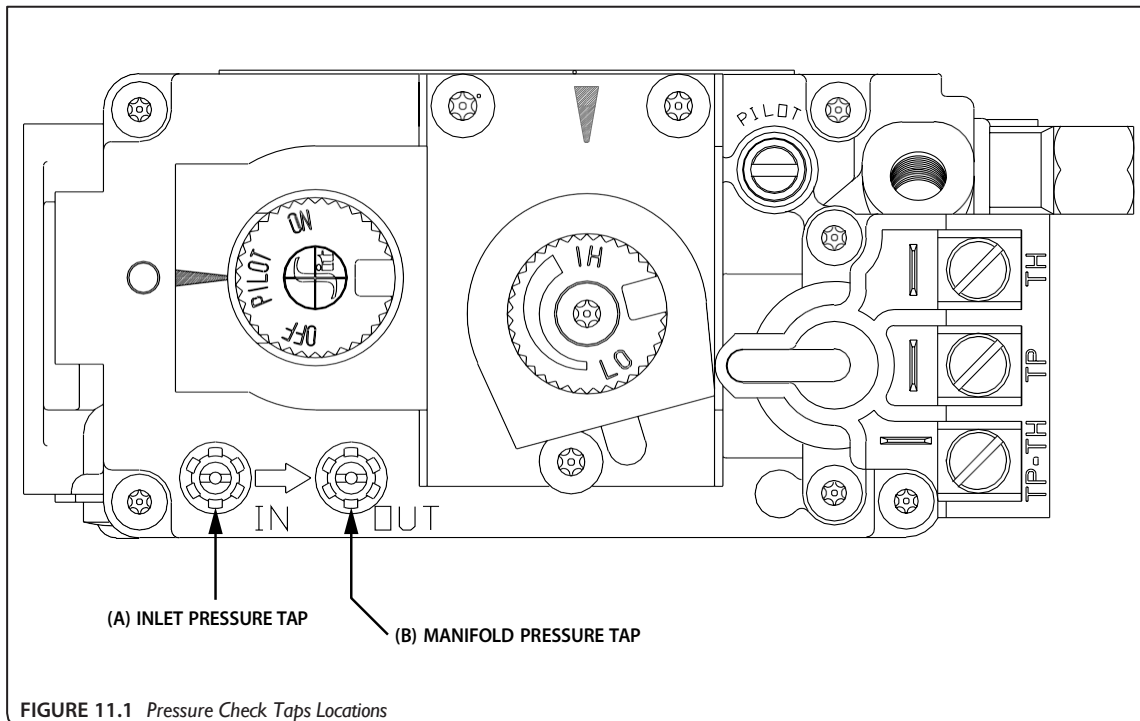

FIGURE 11.1 Pressure Check Taps Locations
1. Loosen the inlet (IN) pressure tap by turning screw counterclockwise. See (A) in FIGURE 11.1.
8. Disconnect hose and tighten the inlet (IN) pressure tap by
2. Loosen manifold (OUT) pressure tap by turning screw counterclockwise. See (B) in FIGURE 11.1.
7. Attach the manometer to the manifold pressure tap (B) to verify it is completely sealed. The manometer should read no pressure when the ON/OFF rocker switch is pressed to ON.